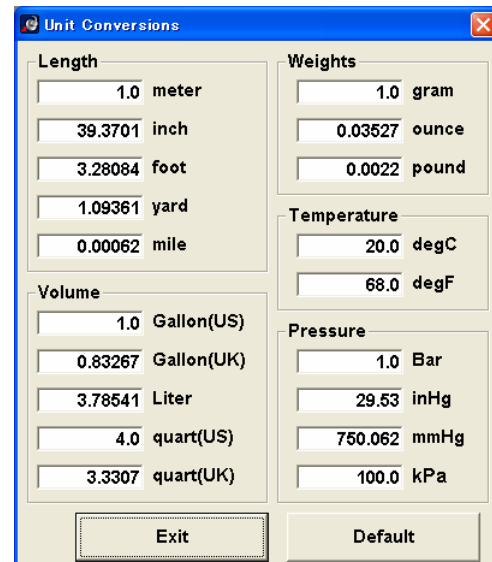

Fig. 10-2-1
- (4) To clear all conversion results, select the [**Default**] button (Fig. 10-2-1 (b)).
- (5) To close the unit conversion dialog box, select the [**Exit**] button (Fig. 10-2-1 (a)).